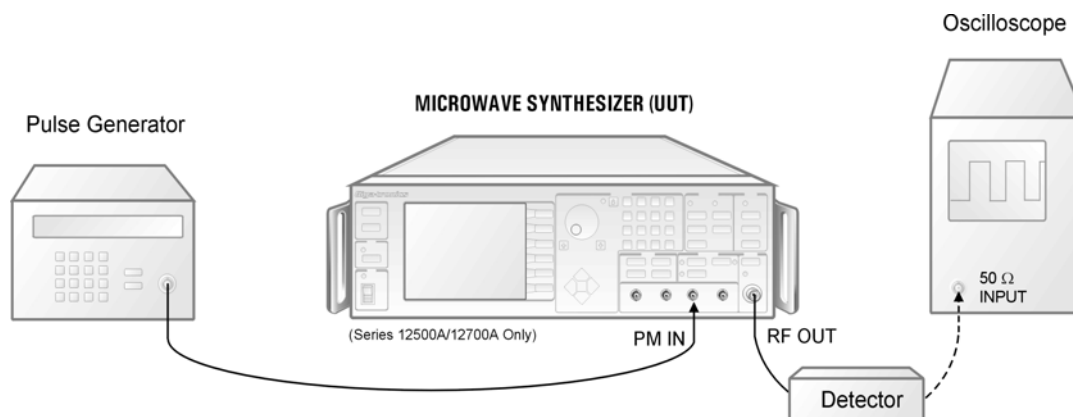

Figure 2-11: Pulse Modulation Accuracy Test
1. Connect the equipment as shown in Figure 2-11. The oscilloscope input impedance should be 50  $\Omega$ . Allow 30 minutes warm-up.